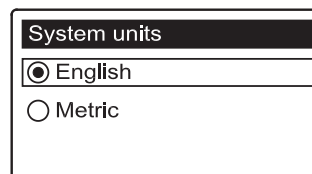

FIG. 17
17. **SYSTEM UNITS** If the desired system already has a black dot next to it (See Figure 17), go to Step 18. Otherwise, press the DOWN (▼) or UP (▲) buttons to scroll to the desired system, then press the SELECT (O) button to choose it.
18. Press the SELECT (O) button.